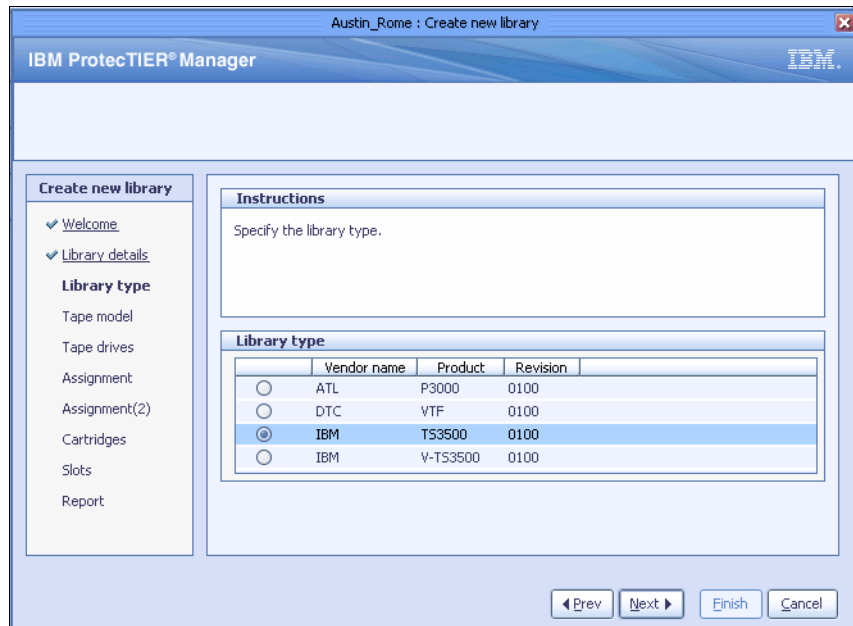

Figure 6-31 Library type menu
3. On next window, specify the type of virtual tape library being created. We specify TS3500, as shown in Figure 6-31.